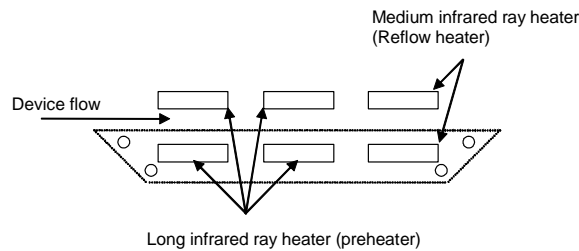

Figure 3.3 Top and Bottom Heating Method with Long or Medium Infrared Rays
- (1) It is recommended the top and bottom heating method with long or medium infrared rays. (See Figure 3.3.)